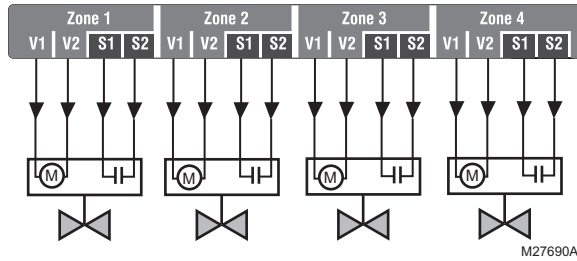

**Fig. 11. Wiring an AQ15540B Zoning Module for use with low voltage zone valves without end switches.**
- Using Fig. 11 on page 9 as a guide, run jumper wires from the R and C terminals on the secondary of the AQ250's transformer, through the wiring channel across the top of the Control Panel, and down through the wiring channel on the right side of the panel and over to the R and C terminals on the bottom of the Zoning Module.